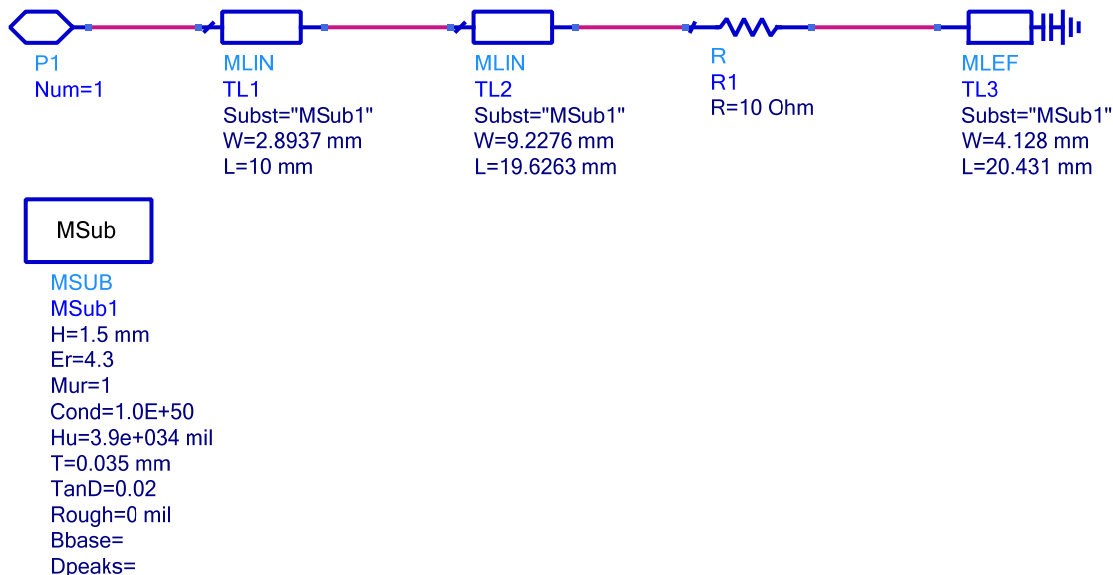

Figure 2: Matching network schematic
1. Open a new schematic window in ADS. Create the circuit shown in figure 2 with the width and length values calculated in section B. Go to File → Save As, and name your schematic cell lastname_4, where you insert your last name.
7. Attach a port to the 10 mm, 50 ohm line to allow reference from a higher-level schematic. The completed schematic look similar to the schematic shown in Figure 2, with your design values in place rather than the ones shown.